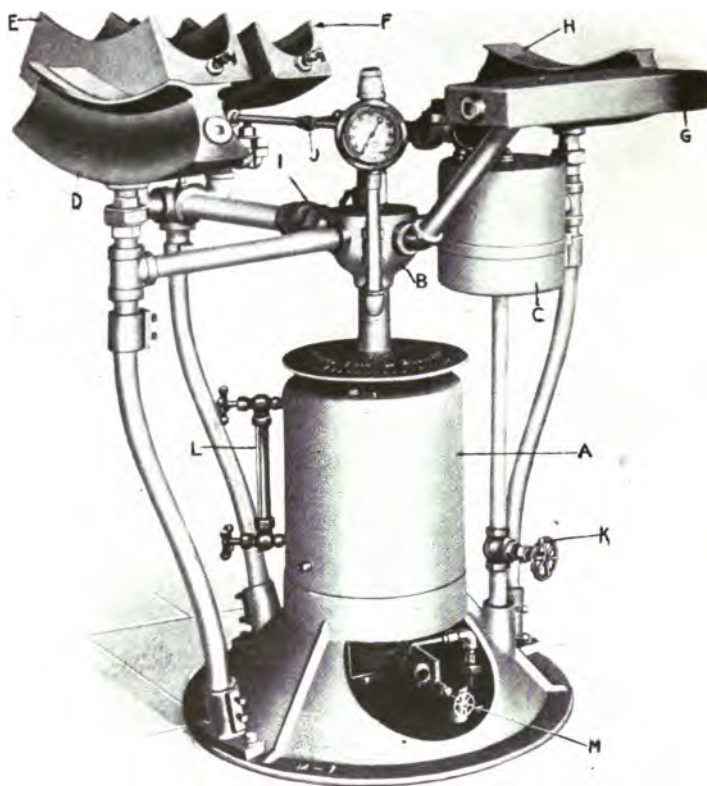

Fig. 106. Master Vulcanizer with Self-Contained Steam Generator
*Haywood Vulcanizer.* For larger work, a machine something like the Haywood Master, shown in Fig. 106, is excellent. This is a self-contained unit, carrying its own gasoline tank, steam generator, and other parts. It handles four casings at once, while the tube plate *G* is 5 by 18 inches, large enough for from three to four tubes according to the allowance per tube made in the Shaler outfit. The separate vulcanizers are not designed for the same part of a casing, a side wall and bead vulcanizer being shown at *D*, a sectional vulcanizer for large sizes at *E*, a sectional vulcanizer for small and medium sizes at *F*, and a side wall and bead vulcanizer for both clincher and straight side tires at *H*. The gasoline tank is marked *C*, with vertical pipe in which is the gasoline cut-off valve *K*. This leads down to the gasoline burner *M*, where the gasoline in burning vaporizes the water into steam. The water gage which indicates the amount of water available is marked *L*, this being placed on the